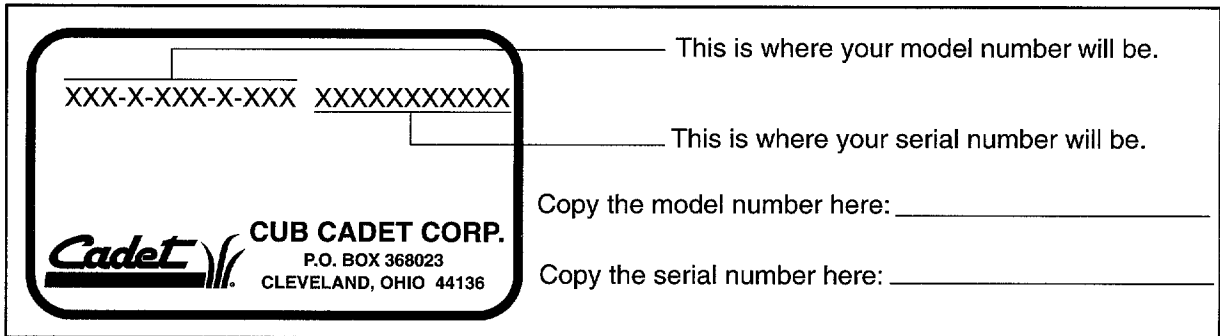

Figure 1
- Every chipper-shredder-vacuum has a model plate. You can locate it by standing behind the unit in the operating position and looking down at the rear frame between the wheels. See Figure 1.